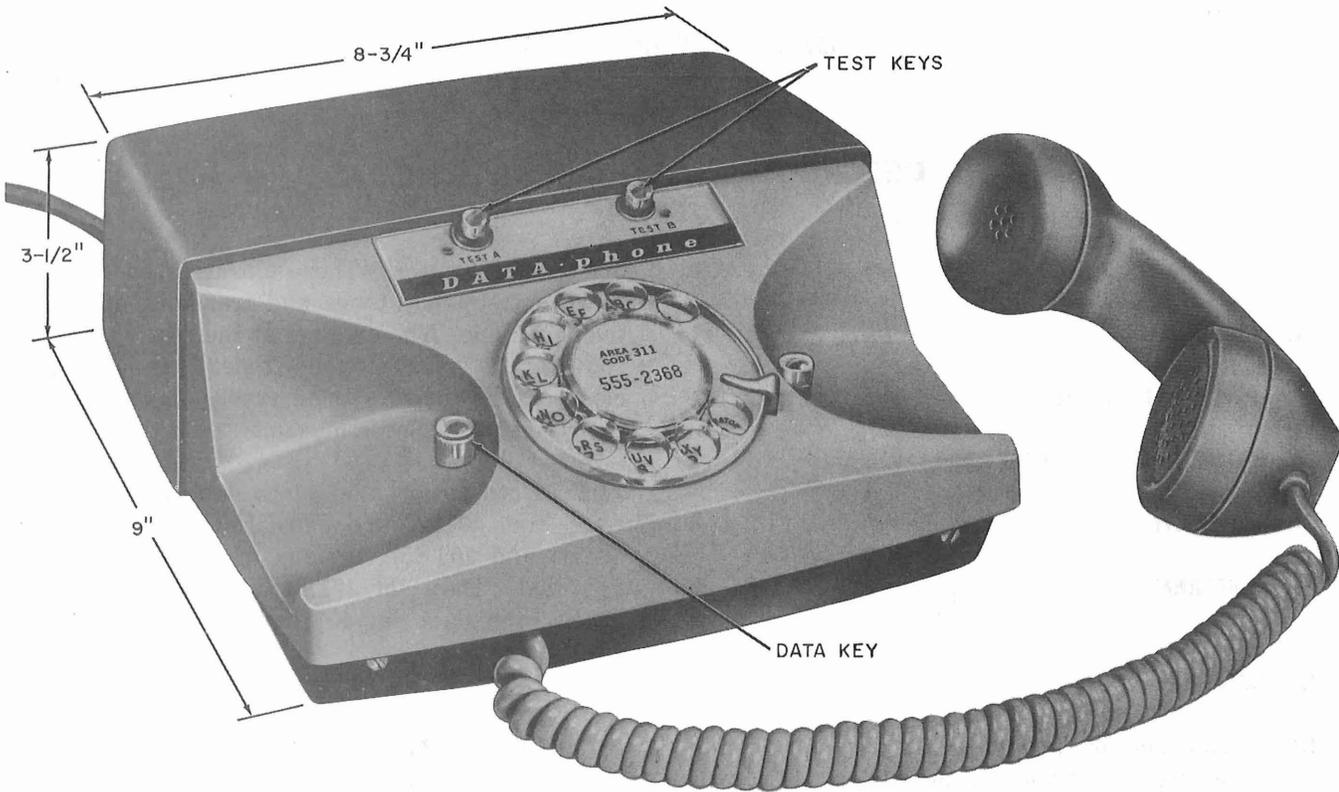

Fig. 1—Data Set 401E2 or 401E3
**2.01** Data set 401E-type is an integrated set combining in one housing a telephone set, the data transmitter, an electrical answer-back amplifier, voice answer-back equipment (data sets 401E1, 401E2, and 402E4), and remote testing circuits. Dimensions for data sets 401E2 and 401E3 and data sets 401E4 and 401E5 are shown in Fig. 1 and 2, respectively. Height of the data set with handset in place is 4-1/2 inches.